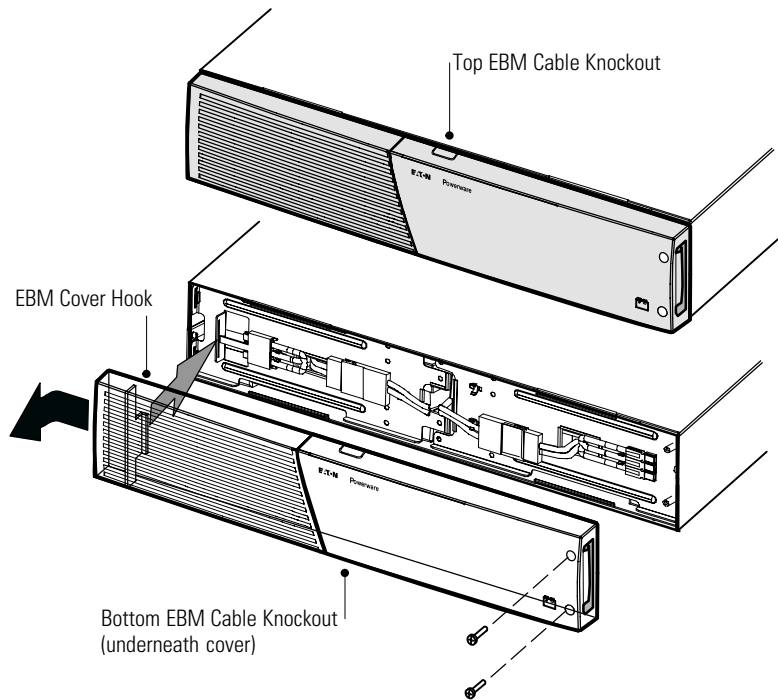

Figure 12. Removing the EBM Front Cover
2. Remove the front cover of each EBM (see Figure 12).
3. For the bottom (or only) EBM, remove the EBM cable knockout on the top of the EBM front cover. See Figure 12 for the location of the top EBM cable knockout.
4. If you are installing more than one EBM, for each additional EBM remove the EBM cable knockout on the top **and** bottom of the EBM front cover. See Figure 12 for the location of the EBM cable knockouts.
To replace the cover, verify that the EBM cables are routed through the EBM cover knockouts, then slide the cover from the left to the right until it connects with the cover hook near the left side of the EBM cabinet. Reinstall the two screws on the right side of the front cover. For reference, see Figure 12 on page 27.